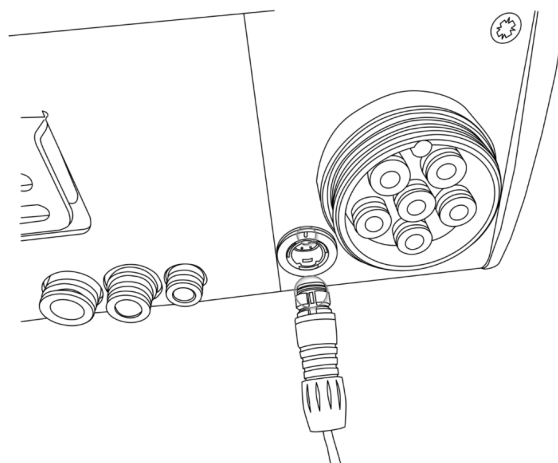

Figure 3: Alignment markings on Heater Connector
2. Plug in Heater Connector (H), aligning white line on the connector with corresponding white line on connector at back of device (Figure 3).